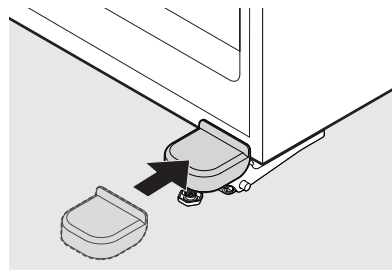

Figure 7
- Reinstall the hinge cover by gently bending the cover tabs outward, while sliding the cover over the hinge until it clicks into place (see Figure 7).